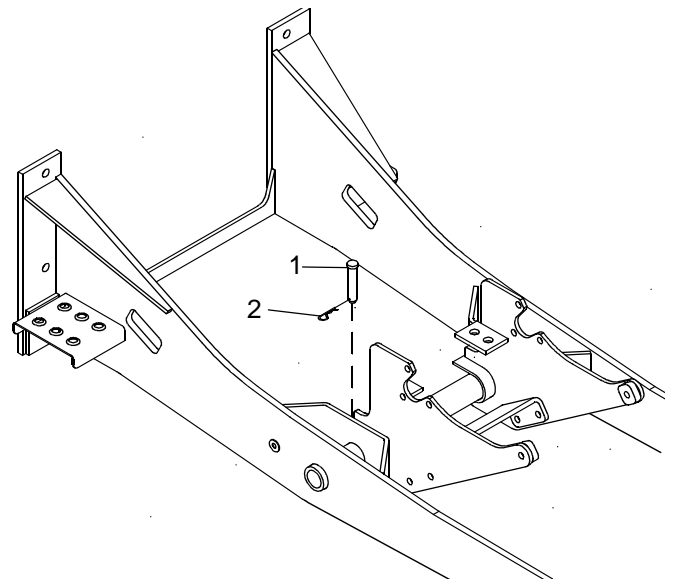

Figure 8 Clevis Pins Installed
2. Insert cross tube of sub-frame into channel of rear support as shown in Figure 8.
3. Install clevis pins (1) and hair pins (2) to secure sub-frame and rear supports as shown in Figure 8.